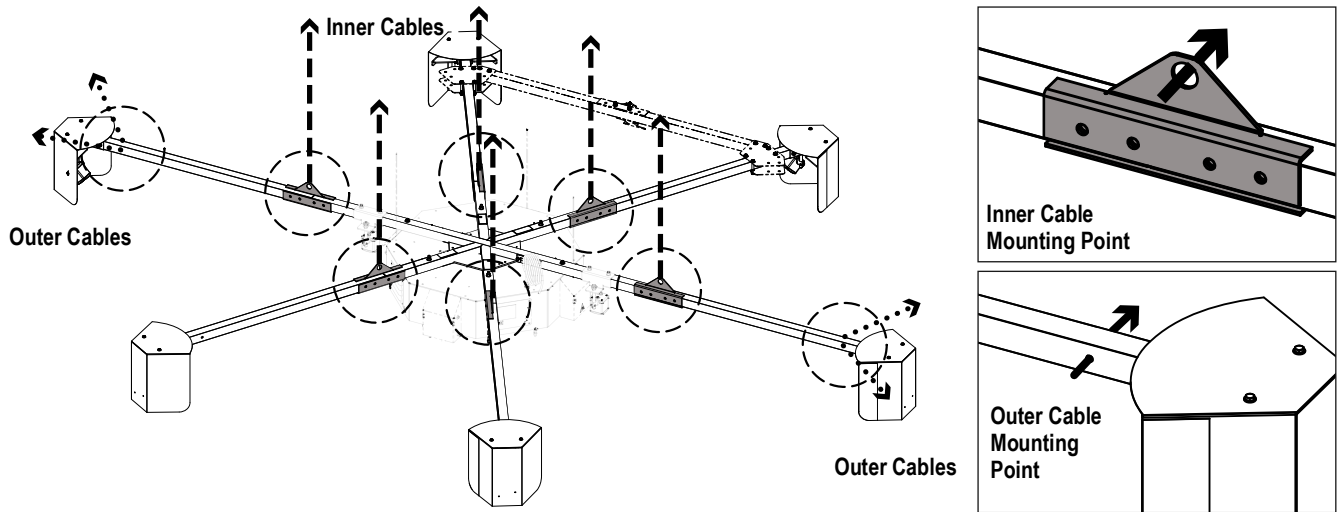

Figure 1. iDimension Mounting Points
4. Attach one turnbuckle (PN 169960) to each dimensioner inner cable mounting point (Figure 1 on page 2).